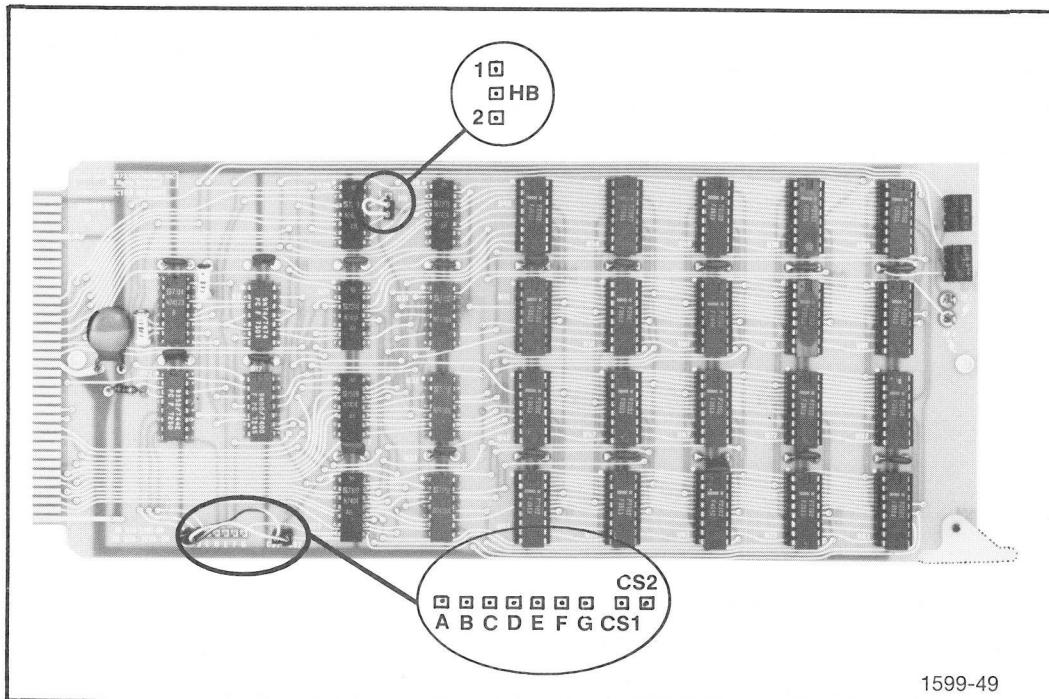
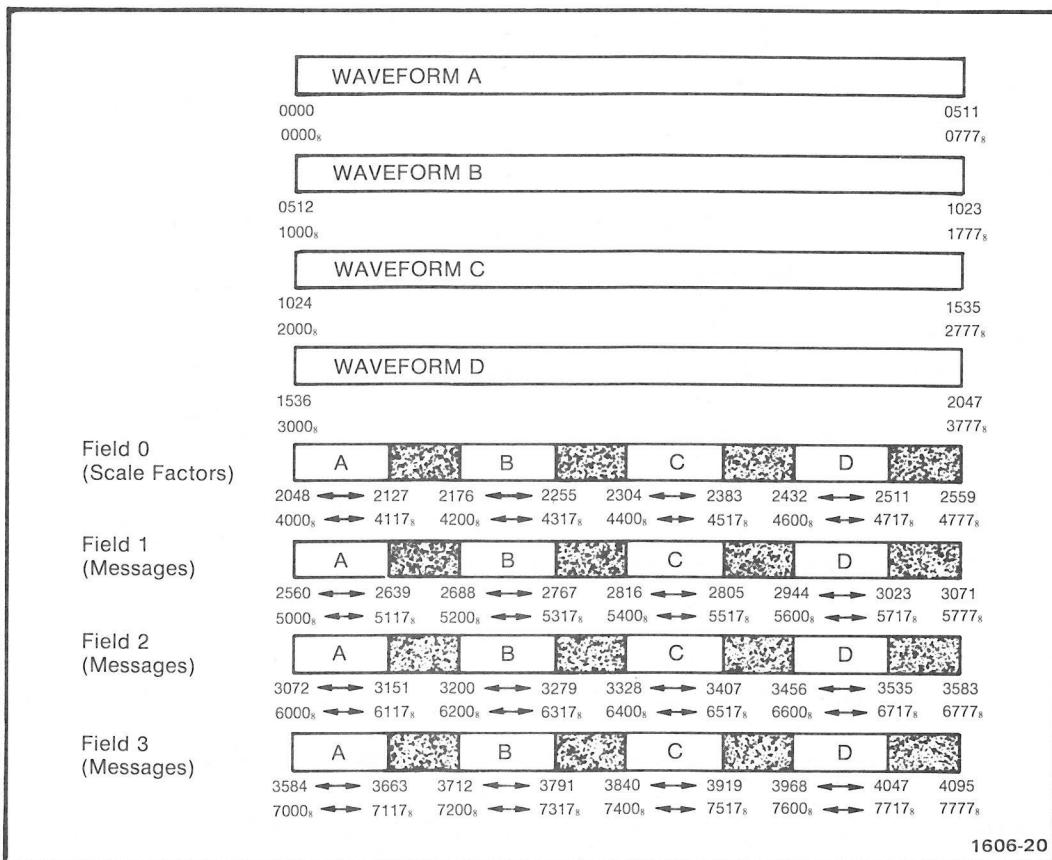

Fig. 1-1. 1K and 2K Semiconductor Memory strap location.
Fig. 1-2. 4K memory map.
Strap options are available for the 1K and 2K versions to eliminate the readout storage capability and replace it with additional waveform storage capacity. Strap options are illustrated in Fig. 1-1 and described in more detail in the DPO Operators Manual (070-1599-00).
The HB strap selects the starting address of the readout fields above the waveform. That is, when ASCII readout storage is desired, HB is set to 1 and then when readout locations are addressed (4000_8 to 4777_8) then the high bit, bit A_9 , will come from ADD 11. This permits one waveform of 512 words and four groups (512 words) of readout information. With HB set to 2 then there are two waveform locations (512 words each) available for storage. These two waveform locations are addressed continuously from 0 to 1023 (see Fig. 1-2).
Chip Select. Chip select is a strap option used to determine the starting address of memory locations. Chips are selected by setting pin 13 of the RAM high (off) or low (on). The option is exercised by selecting the outputs of U02 (A, B, C, and D), ADD 11 (E), or ADD 11 (F) for the Chip Select signal to CS1 or CS2. Option G selects a ground or low point. The pins A through G are jumpered in combinations with CS1 and CS2 to select the desired memory size (see Fig. 1-1 and Fig. 1-2).